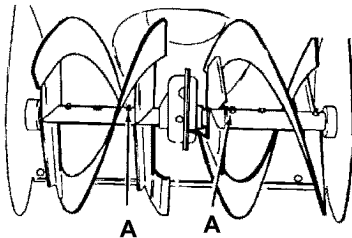

Figure 18
1. Lubricate the **Zerk fittings (A)** every ten hours with a grease gun.
2. Each time a shear bolt is replaced, the auger shaft **MUST** be greased. See Figure 18. See **To Replace Auger Shear Bolt** in the **Service and Adjustment** section.